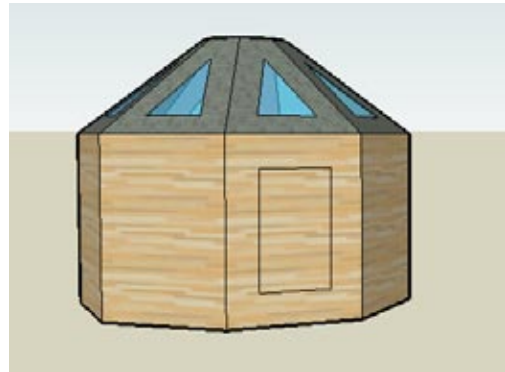

Figure 1-48
- While the face is highlighted, double-click on it. This offsets the face by the same offset distance you used to make the triangular roof window (Figure 1-48).